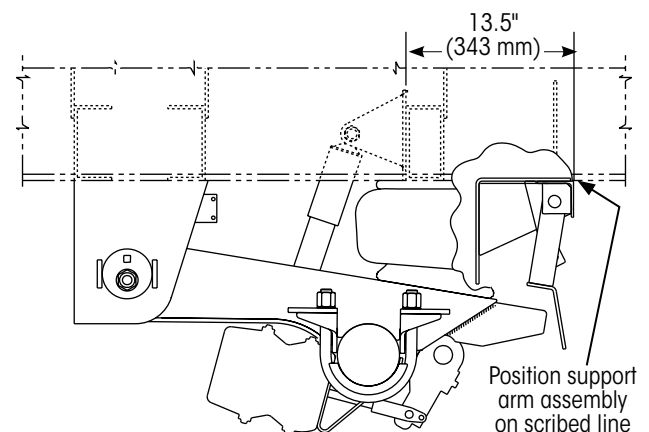

Figure 49: Positioning SURELOK on the scribed line
4. **Position** the SURELOK support arm assembly against both trailer frame beams (Figure 49) so the back edge of the support arm assembly is on the lines scribed in the previous step.
11. Remove the temporary clamps and finish welding the SURELOK assembly to the slider box bottom flange with a 1/4-inch (6 mm) fillet weld (Figure 49). Adhere to the same welding parameters as presented on APPENDIX A: WELDING DETAILS on page 44.